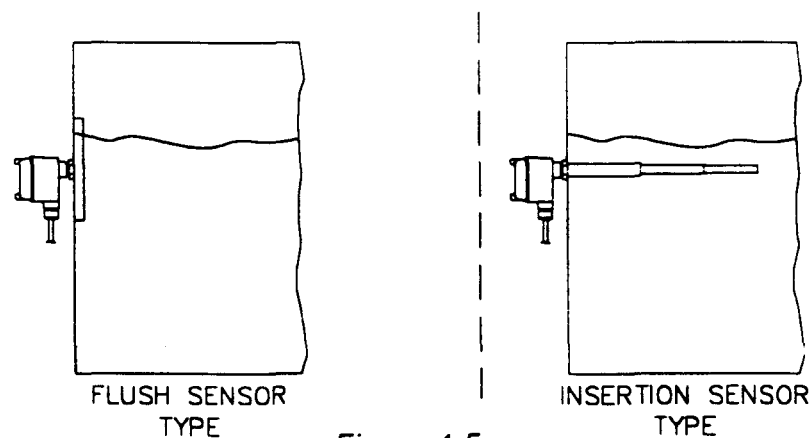

Figure 4-5
- C. Turn the adjustment slowly clockwise (CW) until the relay just operates. (LED changes states).
- E. Increase the material level until it is well above the sensing element. See Figure 4-5 (LED changes states).
- F. Counting the number of turns, turn the adjustment slowly clockwise (CW) until the relay once again just operates or until the end of the adjustment travel.